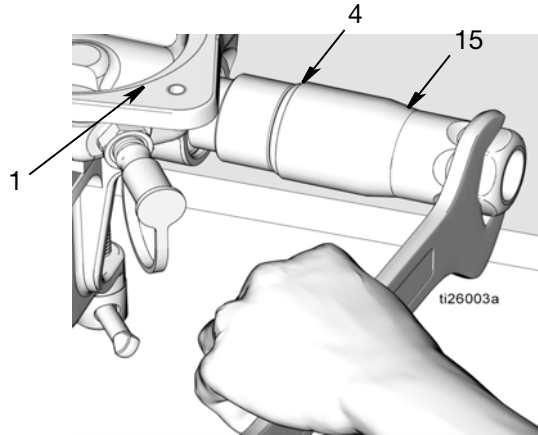

FIG. 22
- e. Discard o-rings (7, 41) and nut (5) according to all regulations for proper disposal
- 16. Remove the outlet check valve (15) from pump base (1) (FIG. 22). Remove o-ring (4) from outlet check valve. Dispose of o-ring according to all regulations for proper disposal